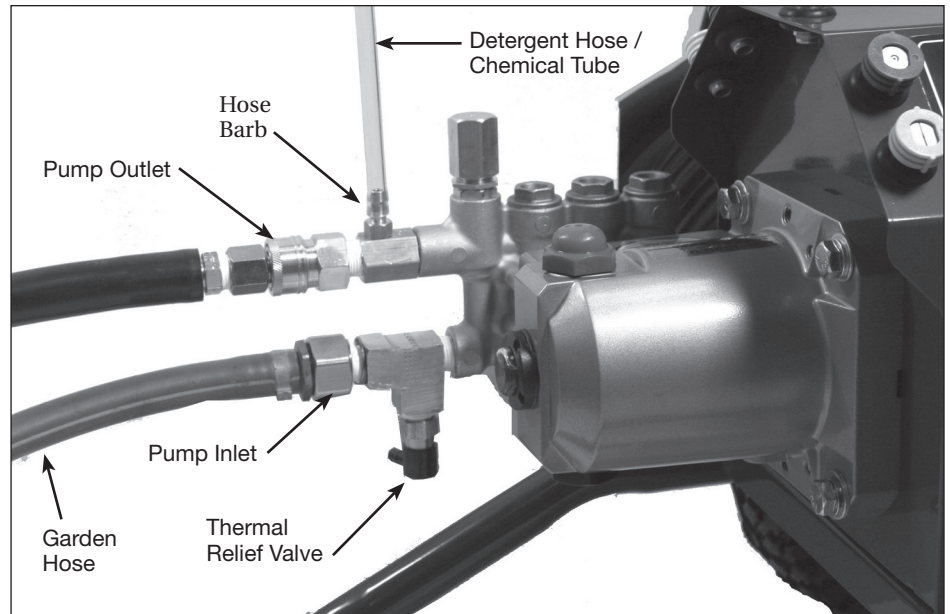

Figure 12 - Pump hook up
4. Secure garden hose (not included) to the inlet connection on pump (See Figure 12).